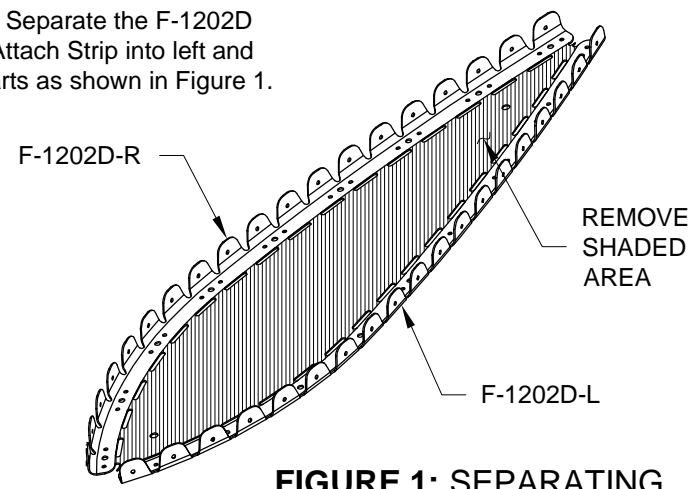

FIGURE 1: SEPARATING THE PANEL ATTACH STRIP
Step 1: Separate the F-1202D Panel Attach Strip into left and right parts as shown in Figure 1.